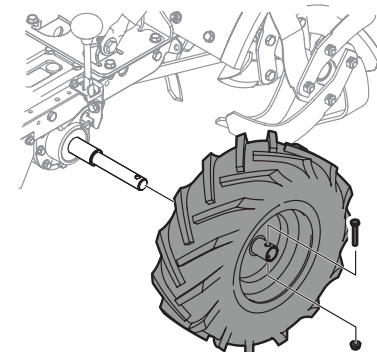

Figure 23
4. Remove the left-side wheel by removing the nut and bolt from the wheel axle. See Figure 23.